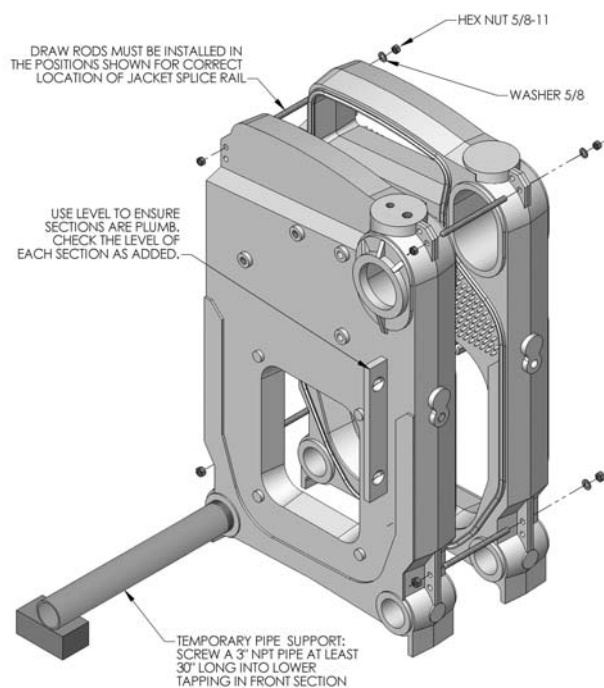

Figure 2.3: Front Section Support
5. The Front Section should be supported vertically as shown in Figure 2.3. Install a 3" NPT x 30" [762 mm] long pipe in the wash out connection at the rear of the section and block with wood.
13. Install the draw rods as shown in Figure 2.3 and tighten them lightly. Note: Draw rods must be installed as shown to ensure correct installation of the Jacket Channel Splice Rail.